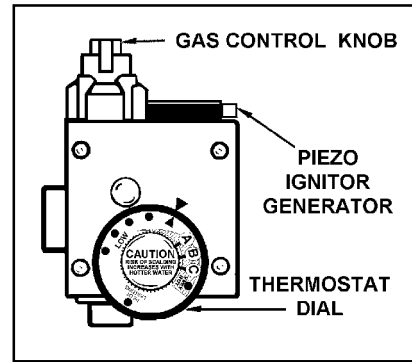

FIGURE 14.
**HOTTER WATER CAN SCALD:** Water heaters are intended to produce hot water. Water heated to a temperature which will satisfy space heating, clothes washing, dish washing, and other sanitizing needs can scald and permanently injure you upon contact. Some people are more likely to be permanently injured by hot water than others. These include the elderly, children, the infirm, or physically/mentally handicapped. If anyone using hot water in your home fits into one of these groups or if there is a local code or state law requiring a certain temperature water at the hot water tap, then you must take special precautions. In addition to using the lowest possible temperature setting that satisfies your hot water needs, a means such as a mixing valve, shall be used at the hot water taps used by these people or at the water heater. Mixing valves are available at plumbing supply or hardware stores, see Figure 2. Follow manufacturer's instructions for installation of the valves. Before changing the factory setting on the thermostat, read the "Temperature Regulation" section in this manual, see Figures 14 and 15.